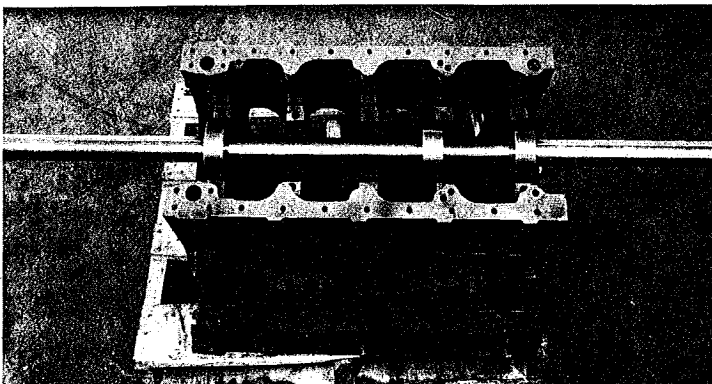

Fig 2 Installation of the Centering Rings
1. After following the instructions for "PREPARATION OF THE ENGINE BLOCK" install a centering ring in each end journal of the block. (See Fig 2)